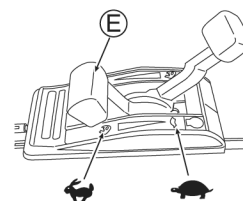

Fig. 12
- Confirm that there is no person behind you when pulling Starter knob (V).
- Securely grab Starter knob (V) when you pull it.
- Return Starter knob (V) slowly.
5. Warm up the machine before use. After the engine has warmed up, start mowing at the position of the throttle lever (E) is "Auto choke". (See Fig. 12)